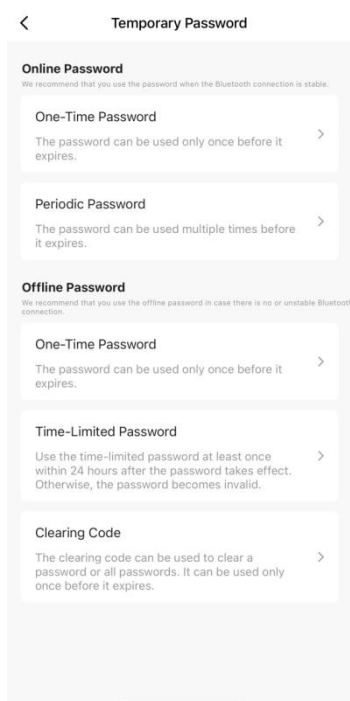

Figure Q-2
(2) Online password unlocking (See Figure Q-2)